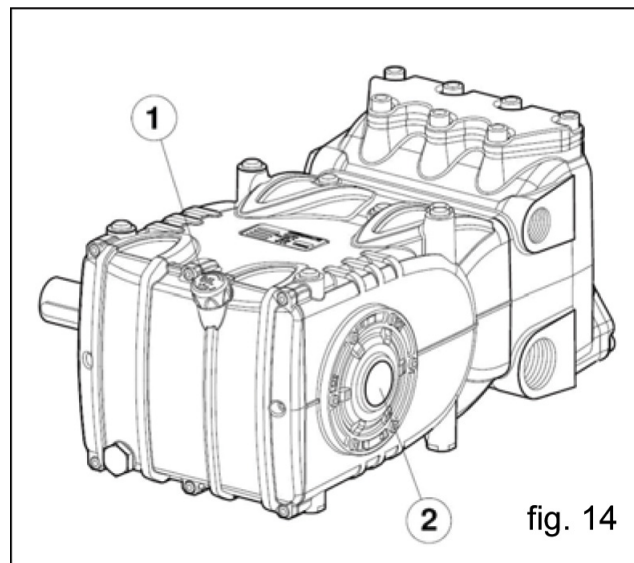

fig. 14
5. The pump's oil level must be verified using the correct dipsticks (position 1, fig 14), and especially by means of the oil sight glass (position 2, fig. 14).